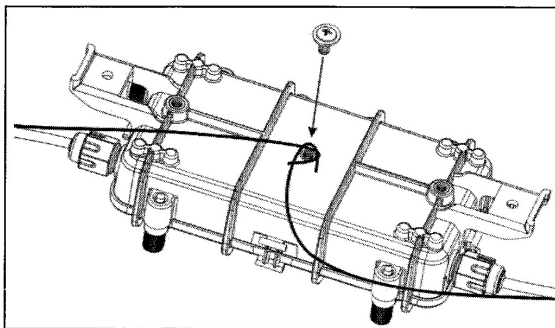

Figure 5. Trace wire attachment
This document has been reissued to update Figure 5.
- ① Loosen the screw for the trace wire located on the bottom side of the LOC-DROP enclosure.
- ② Cut the trace wire to length so that it reaches the screw + 2 inches. Strip the insulation so that approximately 0.75 inches of copper is exposed. Loop the wire around the screw as shown in Figure 5.
- ③ Tighten the screw.